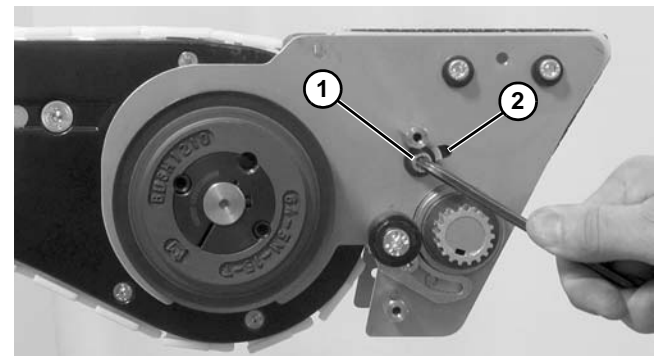

Figure 159
4. Loosen idler socket head screw (**Figure 159, item 1**) on both sides of the conveyor.
5. Slide idler assembly within slot (**Figure 159, item 2**) to remove tension on belt.